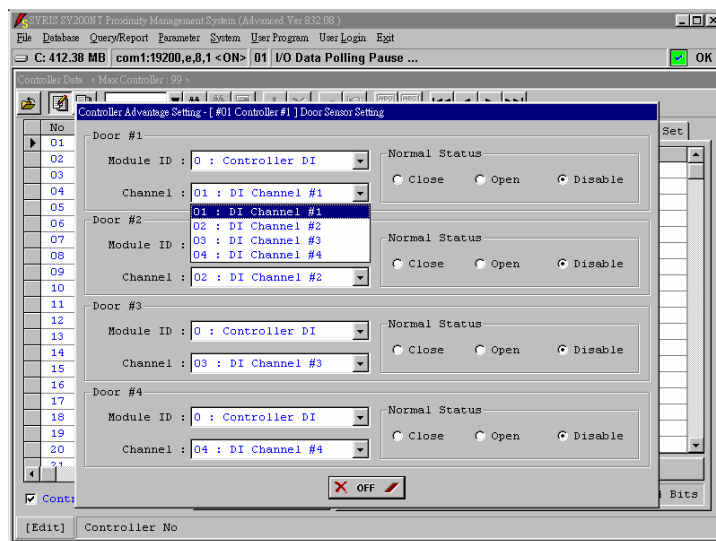

Fig.11-5 Door Sensor – DI Channel Select
6. Click each door "Channel" to select module channel, as Fig.11-5